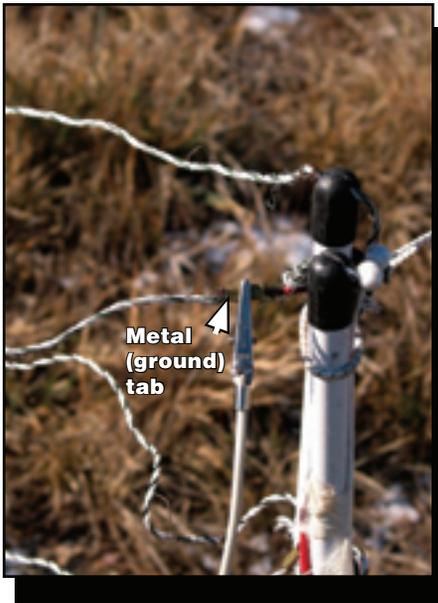

Figure 10—Clip the leads from the energizer to the hot wire (shown) and ground wires of the fence.
9. Clip electrical wires onto metal tabs crimped on the fence mesh near the end post (figure 10).